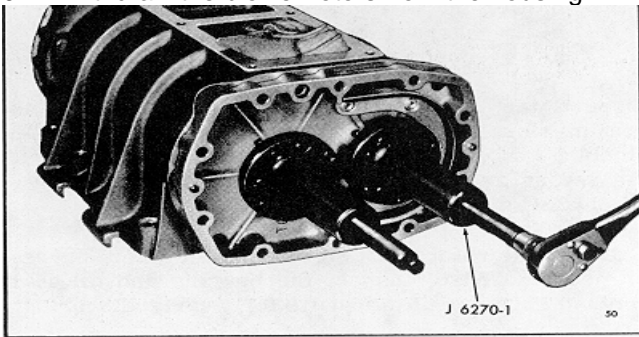

Fig. 7 - Removing Blower End Plate
6. Remove the bolts and lock washers securing the rotor shaft bearing retainers (6) to both the front and rear end plates. Remove the retainers.
- a. Remove the two fillister head screws (26) securing the rear end plate (24) to the blower housing, and loosen the two fillister head screws securing the front end plate (23) to the housing approximately three turns.
- d. Turn the two pullers screws uniformly clockwise and withdraw the end plate and bearings from the blower housing and rotors as shown in Fig. 7.